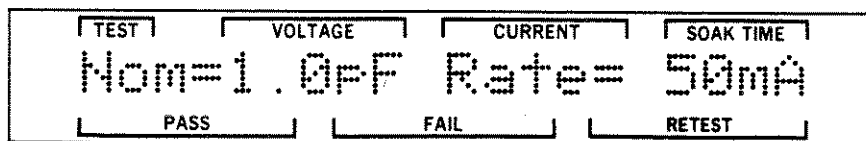

Figure 7-57. Nominal Capacitance and Charge Rate Screen
STEP 6. Press the UP or DOWN pushbutton until the Nominal Capacitance and Charge Rate screen is displayed. Figure 7-57 is an example of this screen.